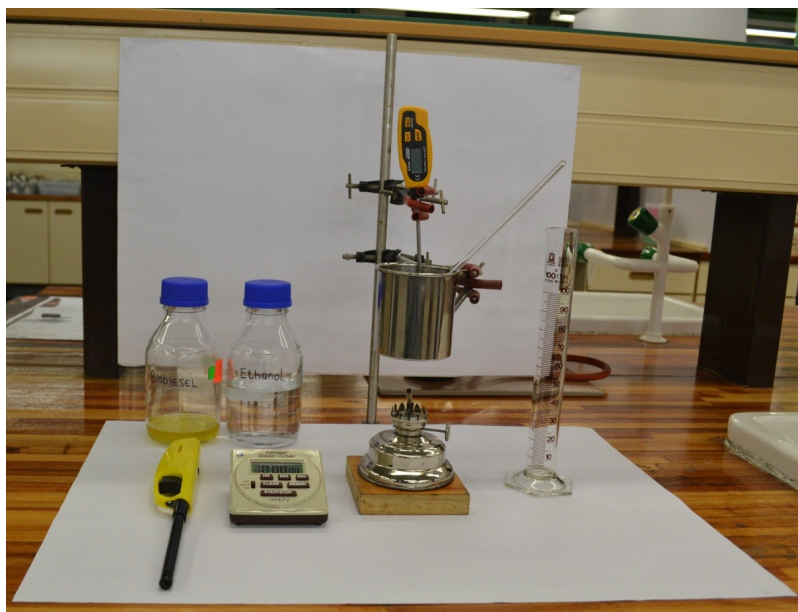

Figure 2
12. Set up the apparatus as shown in Figure 2. Ensure the stainless steel cup is 5 cm above the oil lamp. Use a utility clamp to suspend the digital thermometer in the water. The digital thermometer should not touch the bottom of the cup.